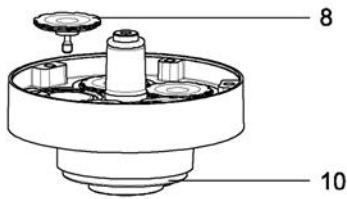

Fig. 6
1. Screw diaphragms (8) by hand into the wobble disk (10) and tighten.
2. As shown in Fig. 6, place diaphragm adapter (9) on a suitable surface.